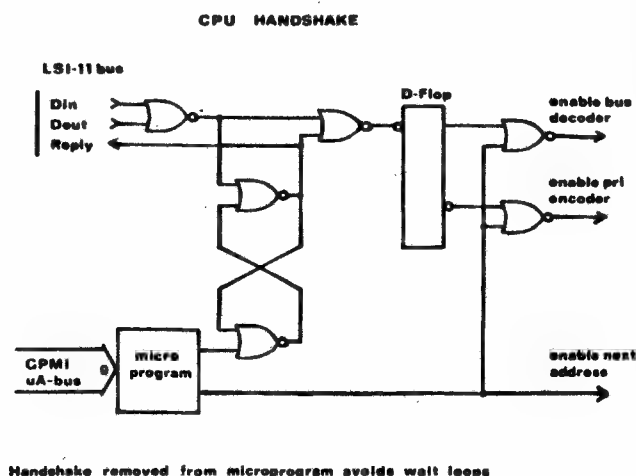

Figure 1-2
- the CPU Handshake (figure 1-2);